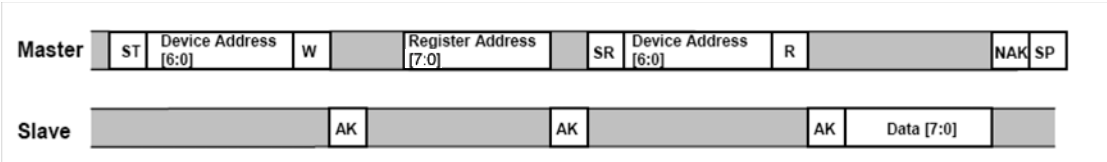

Figure 7. Single Byte Read - The Master is reading one address from the MMA7455L
The MMA7455L has an 10-bit ADC that can sample, convert and return sensor data on request. The transmission of an 8-bit command begins on the falling edge of SCL. After the eight clock cycles are used to send the command, note that the data returned is sent with the MSB first once the data is received. Figure 7 shows the timing diagram for the accelerometer 8-bit I2C read operation. The Master (or MCU) transmits a start condition (ST) to the MMA7455L, slave address (\$1D), with the R/W bit set to "0" for a write, and the MMA7455L sends an acknowledgement. Then the Master (or MCU) transmits the 8-bit address of the register to read and the MMA7455L sends an acknowledgement. The Master (or MCU) transmits a repeated start condition (SR) and then addresses the MMA7455L (\$1D) with the R/W bit set to "1" for a read from the previously selected register. The Slave then acknowledges and transmits the data from the requested register. The Master does not acknowledge (NAK) it received the transmitted data, but transmits a stop condition to end the data transfer.